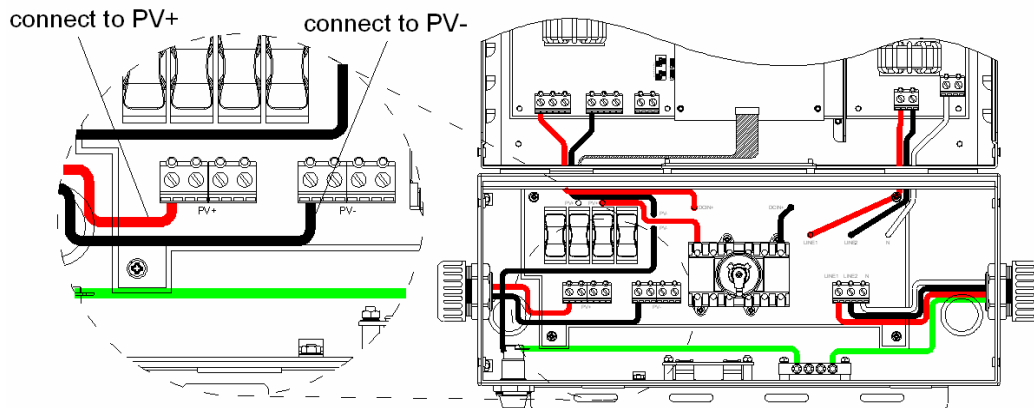

Fig 2.3.9 DC terminal blocks for DC wiring connections
There are two (2) terminals, labeled “+” and “-”, per PV string located in the wiring box used for the DC connections as shown in Figure 2.3.9 The DC equipment ground wire shall be connected to a screw on the ground bar labeled  in the wiring box of the PVI 3000-5300 inverter. All the screws shall be tightened with a torque of 15.6 in-lb (1.7Nm)